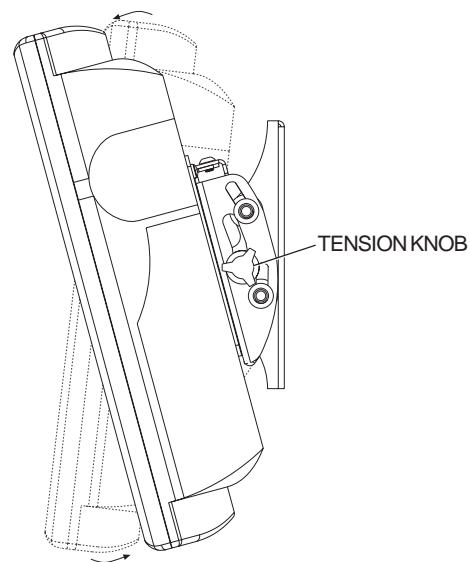

fig. 4
- 4 Adjust tension knob on right side of mount shown in figure 4 to desired tension to balance your screen size and weight.
Push or pull from top or bottom of screen to adjust tilt as shown in figure 4. The tilt can be adjusted to a maximum of 15° forward or 5° backward.